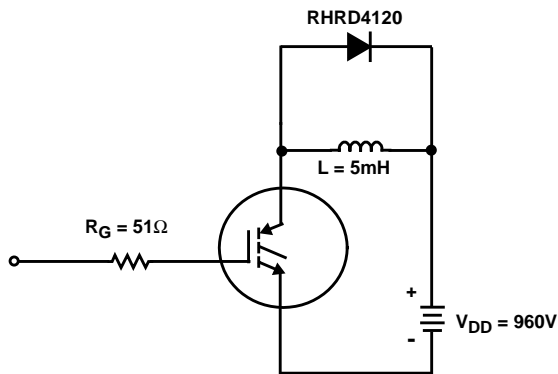

FIGURE 18. INDUCTIVE SWITCHING TEST CIRCUIT
- Values for two Turn-On loss conditions are shown for the convenience of the circuit designer.  $E_{ON1}$  is the turn-on loss of the IGBT only.  $E_{ON2}$  is the turn-on loss when a typical diode is used in the test circuit and the diode is at the same  $T_J$  as the IGBT. The diode type is specified in Figure 18.